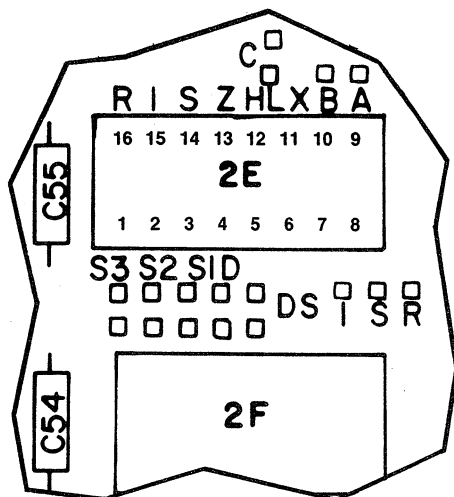

FIGURE 3-4. SIDE SELECT TERMINAL POSTS
1. Cut X shunt of DIP located at 2E (pins 6 to 11). See Figures 3-4 and 3-5.
1. Cut A shunt of DIP located at 2E (pins 7 to 10). See Figure 3-4.
1. Remove any jumper plugs at S3 and S2 terminal posts. See Figure 3-4.